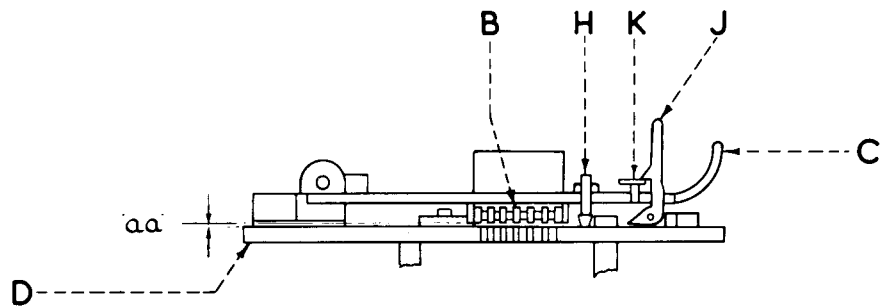

FIG. 2a
- 1.3 Place a screwdriver between the main plate and the reading levers so that the latter are held down below the surface of cover plate D. With the levers thus held clear, and with the tape retaining plate C closed, check that tape roller B clears cover plate D by .007 - .009 in. (.18 - .23 mm.), i.e. dimension 'aa', Fig. 2A.